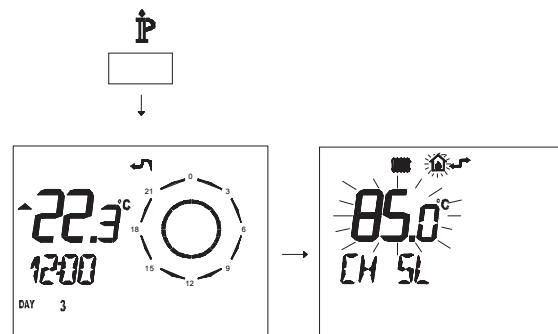

Fig. 7.22
- Press button **P** for more than 3 seconds to enter in **INFO** (Fig. 7.22) mode.